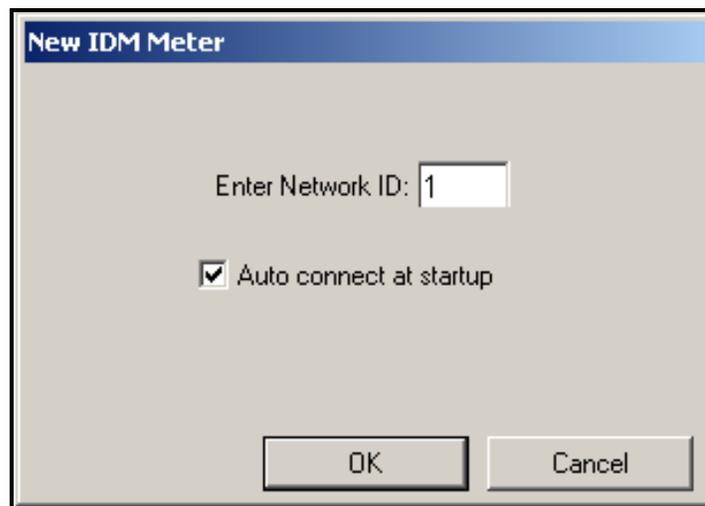

Figure 22: New IDM Meter Screen
4. The “*New IDM Meter*” screen (shown in Figure 22) opens. Enter the Network ID number for the meter, and click [OK].
1. Highlight the meter (as shown in Figure 22 on page 109).